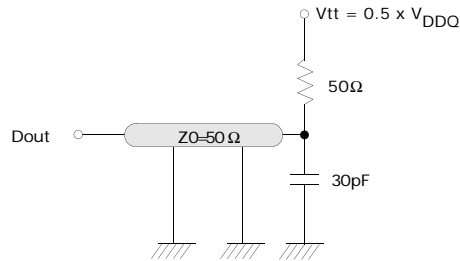

Figure 48.1 AC Output Load Circuit
- Output load (See Figure 48.1): $CL = 30pF$